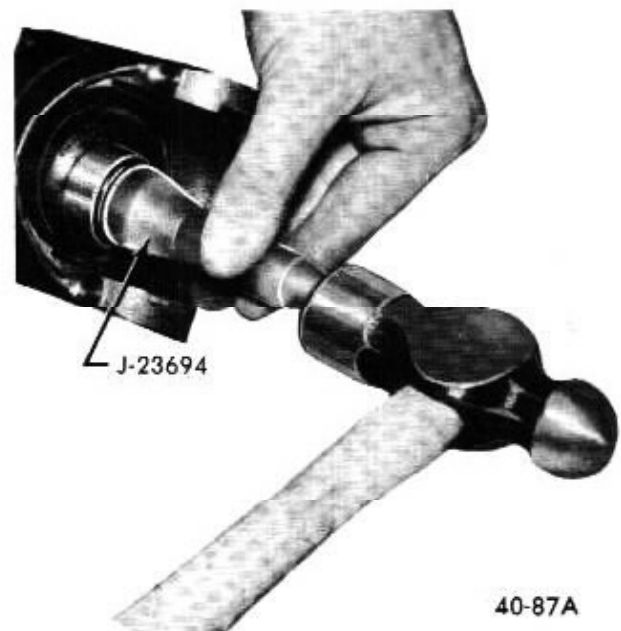

Figure 40-74 Installing Ball Stud Seal
10. Lubricate the seal and press into cavity with Tool J-23694. The sealing lip should tip inward. See Figure 40-74.